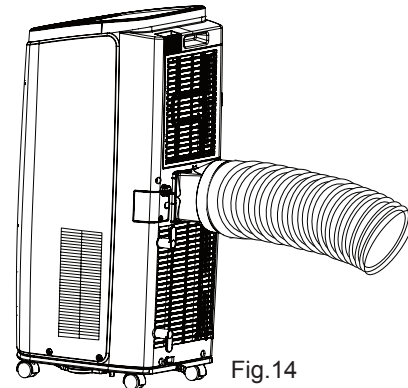

Fig.14
- The length of the heat discharge pipe is less than 1m. It is recommended to use it with shortest length. (As shown in Fig.14)